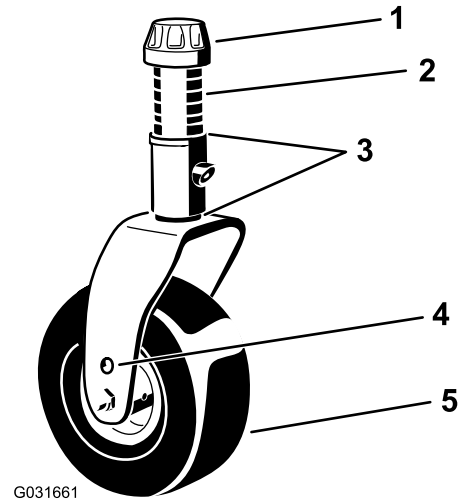

Figure 27
4. Remove the tensioning cap from the caster-spindle shaft and slide the caster shaft out of the caster arm (Figure 27).